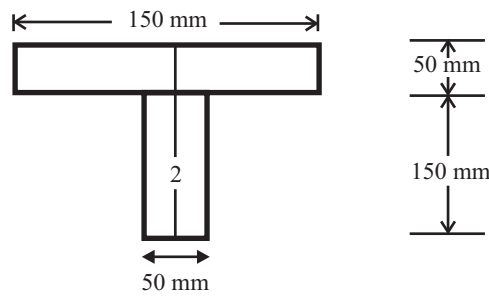

Fig 16.8
Q. 13: Find out the M.I. of T section as shown in fig 16.8 about X-X and Y-Y axis through the C.G. of the section.